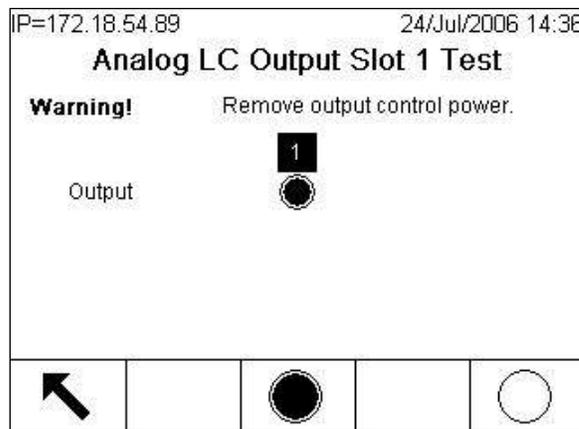

Figure 3-210: Analog LC Output Slot 2 Test Screen
4. With an output selected, press the DISCRETE OFF softkey  to turn it off, or press DISCRETE ON  to turn it on. Figure 3-210 shows the test screen for an Analog Load Cell, with its output turned on.